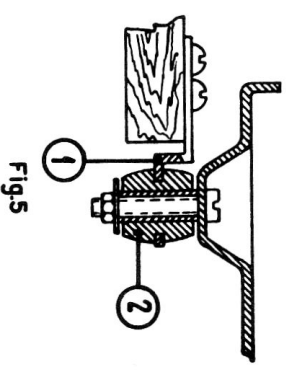

Fig.5
In order to mount the record player in a cabinet various small parts are required. These are included in the "Parts List" in these Service Notes. Fig. 5 indicates clearly the mounting position of these parts.
- Fig. 5 Spring suspension of the record player